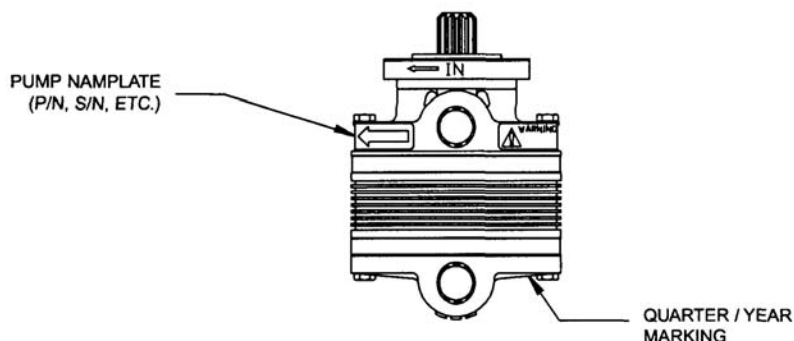

Figure 1
- 2) There may be an occasion when the nameplate has been lost or obliterated. Starting in 1972, a quarter/year marking may have been stamped on the back of the air pump as depicted in Figure 1. For example, 2Q02 signifies the air pump was manufactured in the second quarter of 2002.